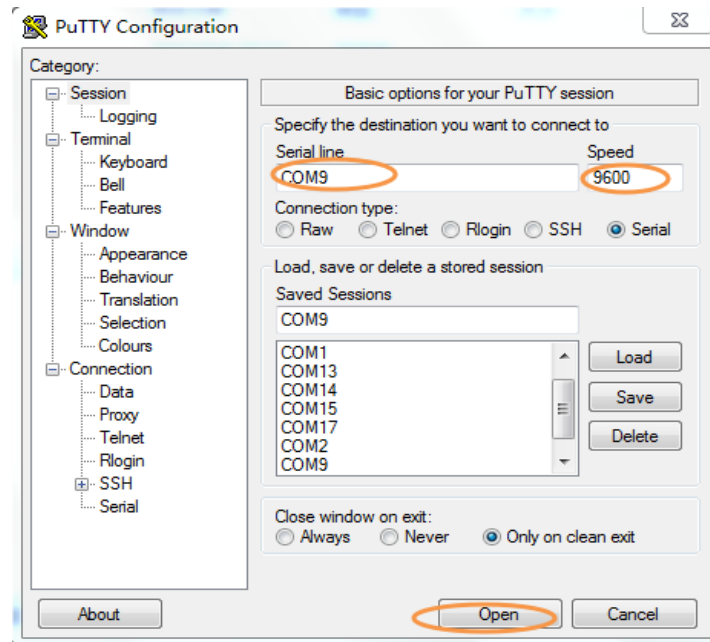

Figure 6-10 Putty Terminal Setup
- Open the putty software, type in the parameter as shown in **Figure 6-10** and click open button to open the terminal.(Here is a link for you to download the putty terminal: Download Putty)